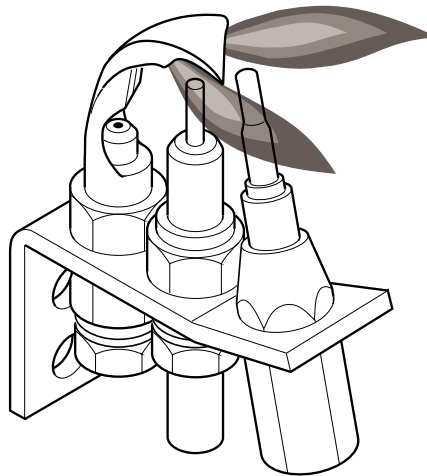

Figure 18 - Viewing Pilot
7. With control knob depressed, push down and release ignitor button. This will light pilot. The pilot is attached to the front of burner. You can see pilot through front glass of heater (see Figure 18). If needed, keep pressing ignitor button until pilot lights.